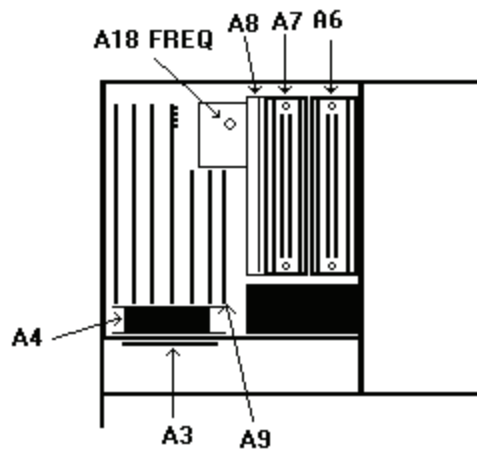

Figure 1. Test instrument - top view.
- (1) Connect a time/frequency workstation 1 MHz output to frequency difference meter REF INPUT.
- (2) Connect TI FREQ STD OUTPUT 10 MHz (rear panel) to frequency difference meter SIG INPUT.
- (3) Adjust A18 FREQ ADJ (fig. 1) for minimum difference indication on frequency difference meter.